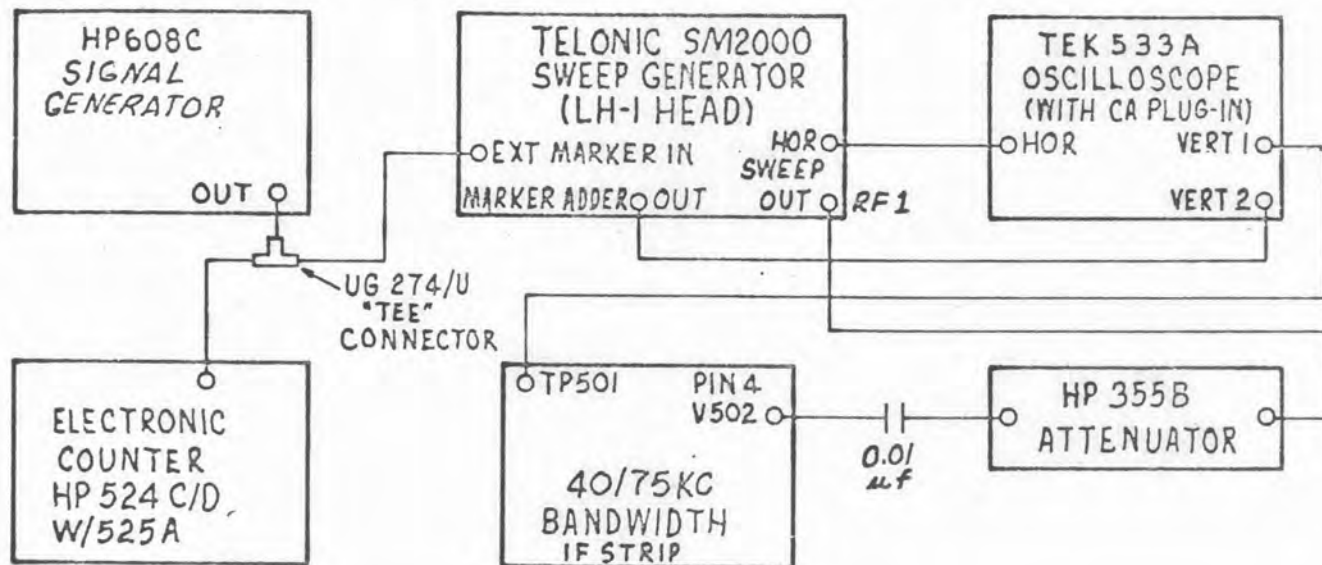

Figure 5-5
- a. Set up equipment as shown in figure 5-5.
- a. Return test setup to that shown in figure 5-5.